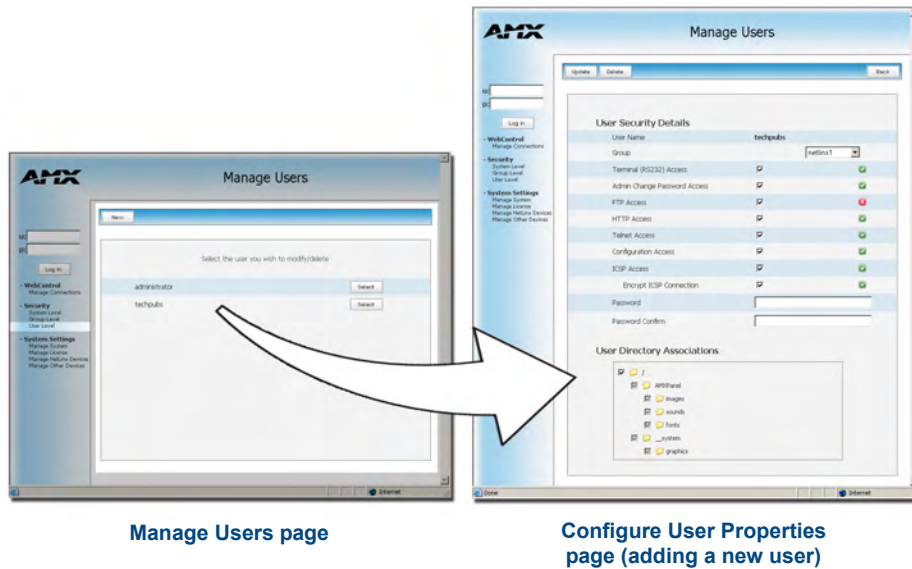

FIG. 38 User Level Security - Manage Users Security page
To access the User Level Security page (FIG. 38), click on the **User Level** link (from within the Security section of the Navigation frame). This page allows an authorized user to add a user account (FIG. 30) and then assign that user's current access rights.
2. Click the **New** button to be transferred to the *Configure User Properties* page (FIG. 38).
2. Press the **Select** button next to the selected Username to open the *Configure User Properties* page (FIG. 38) for the particular user.